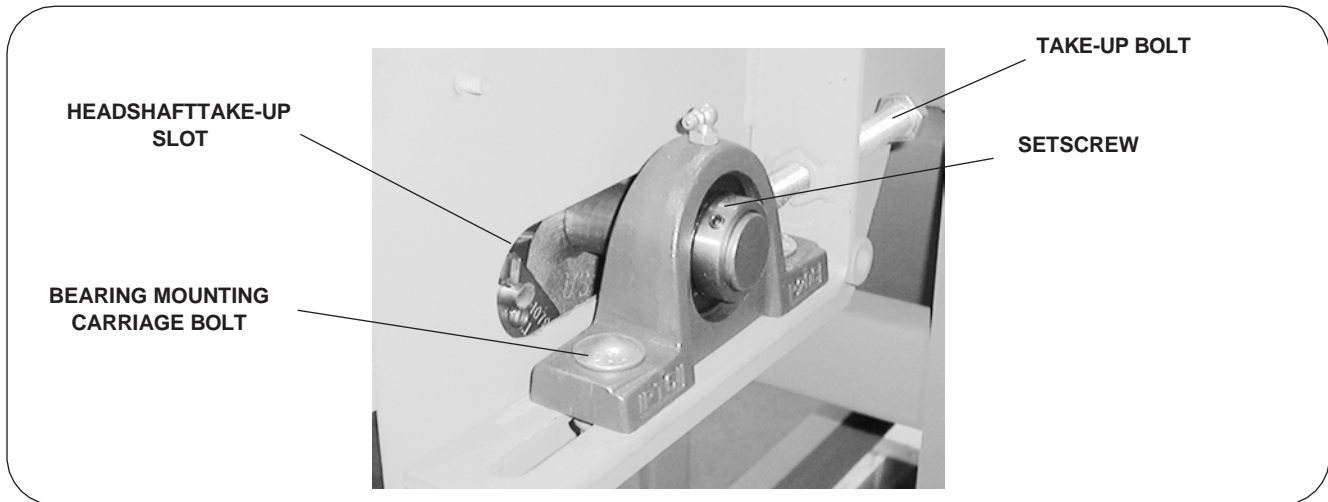

Figure 5. Headshaft Take-Up Slot
This unit is preset at Jorgensen Conveyors, and should only require resetting if clearing the overload does not stop the ratcheting. Refer to Figure 5 and proceed as follows:
- Loosen the setscrews on the flange bearing or pillow block bearing so that the headshaft can be moved laterally. (See Figure 5.)
D. If the headshaft has lateral movement in the bearings: Check the headshaft-bearing mounting carriage bolts for tightness (Figure 5). If either is loose, proceed as follows:
- Adjust the headshaft so that the drag chain is equal distant between the chain and the inside of the side plate on each side (Figure 5).